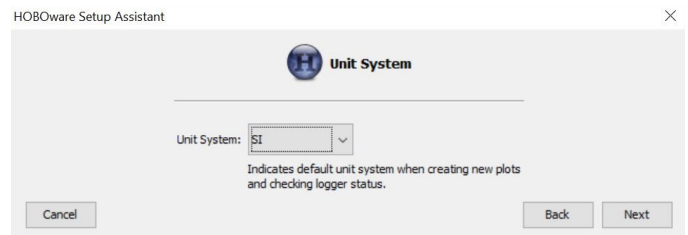

Figure 23. Unit System Window
13. A Unit System window (Fig. 23) will appear; select *SI*. Click NEXT.